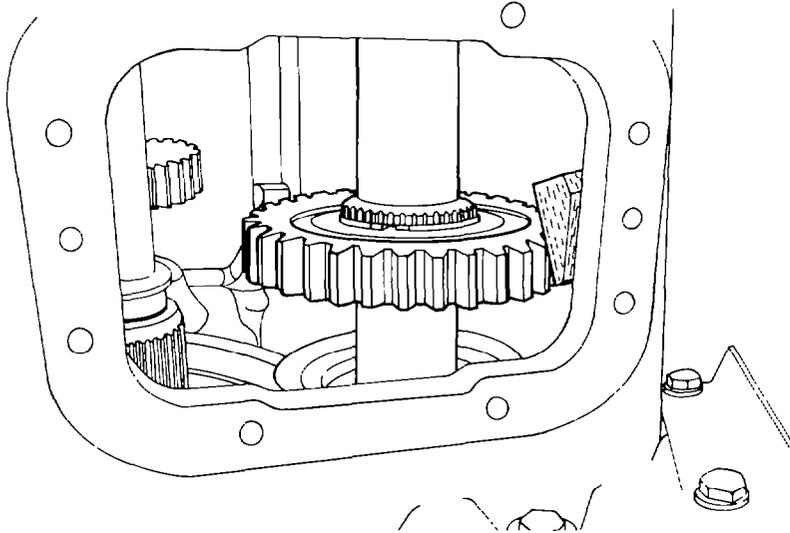

Fig. 394 — Wedge Location
- a. Insert a wooden wedge between the PTO drive gear and the transmission housing (see fig. 394).